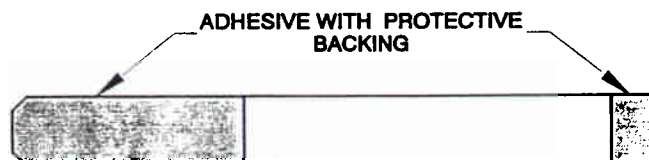

Figure 1: Band Before Assembly
1. Carefully remove the protective backing over the smaller adhesive area of the band. See Figure 1. Avoid contaminating the exposed adhesive during handling, i.e. dirt, fingerprints, etc.